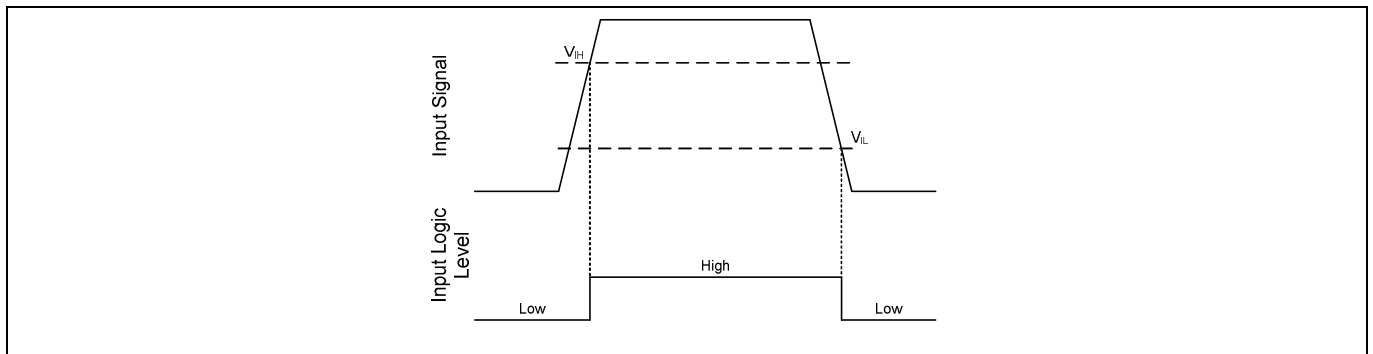

Figure 12 HIN & /LIN input thresholds
The input pins are based on a TTL and CMOS compatible input-threshold logic that is independent of the V_{CC} supply voltage. Figure 12 illustrates an input signal to the 2ED2108 (4) S06F (J), its input threshold values, and the logic state of the IC as a result of the input signal. The typical high threshold (V_{IH}) of 2.1 V and typical low threshold (V_{IL}) of 0.9 V. The input pins are conveniently driven with logic level PWM control signals derived from 3.3 V and 5 V digital power-controller devices. Wider hysteresis (typically 0.9 V) offers enhanced noise immunity compared to traditional TTL logic implementations, where the hysteresis is typically less than 0.5 V. 2ED2108 (4) S06F (J) also features tight control of the input pin threshold voltage levels which eases system design considerations and ensures stable operation across temperature. The 2ED2108 (4) S06F (J) has input pins that are capable of sustaining voltages higher than the bias voltage applied on the V_{CC} pin of the device.